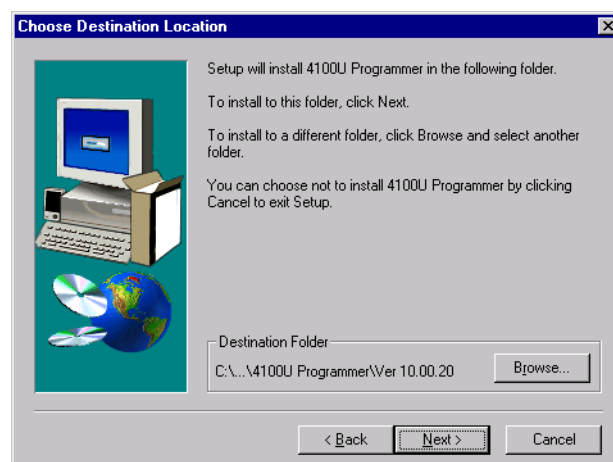

Figure 2-3. Destination Directory Dialog
2. Click Next to continue the installation. The screen shown in Figure 2-3 appears, prompting you to specify the destination folder to which the programmer files should be installed.